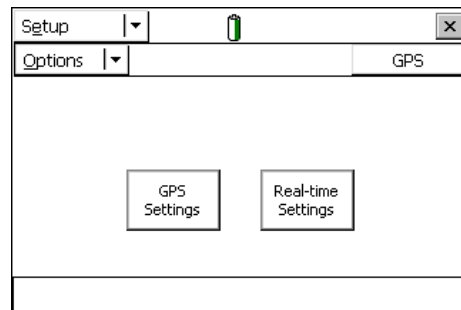
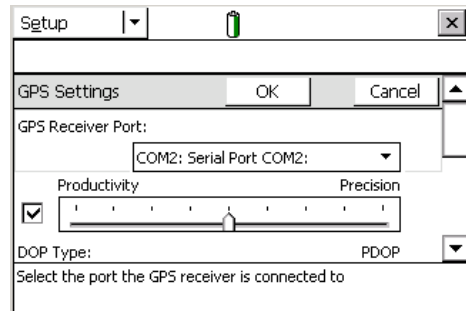

Figure D-3. Setup Options
Figure D-4. Setup GPS Settings
- 4** Tap **Skyplot > Setup > GPS Settings** (Figure D-3).
- 5 Tap the drop-down arrow in the *GPS Receiver Port* field and select COM2: Serial Port COM2 (Figure D-4). Scroll down the window and set up the following fields as follows. When you finish, tap **OK** to return to the *Setup* window (Figure D-3).